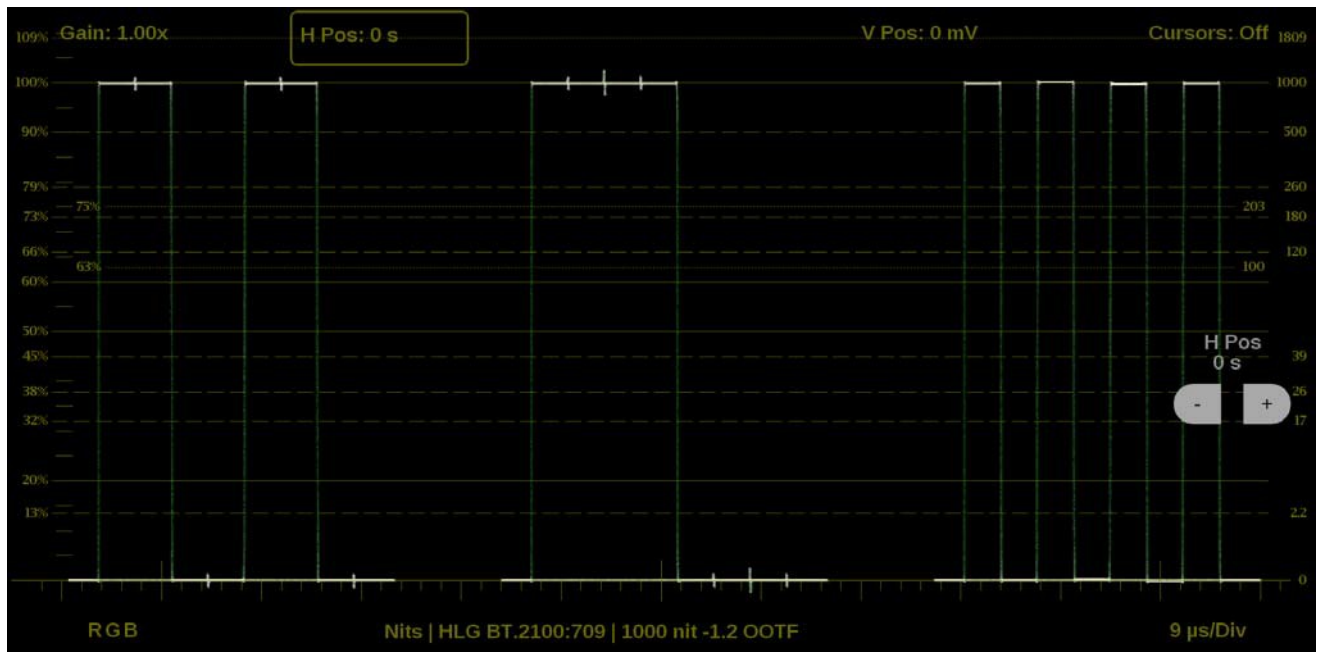

Figure 89: Waveform on-screen tools – horizontal position
1. Select the **H Pos** button to allow incremental adjustment of the horizontal trace. (See Figure 89.)